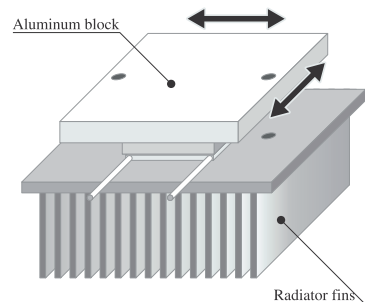

FIGURE 5. INSTALLING THE ALUMINUM BLOCK
- 6) Place the aluminum block onto the heat absorbing side of the Peltier Module. Once again, apply light pressure to the block and slide it back and forth, left and right, to ensure a tight fit and lose any layer of air between the connecting sides. (figure 5)